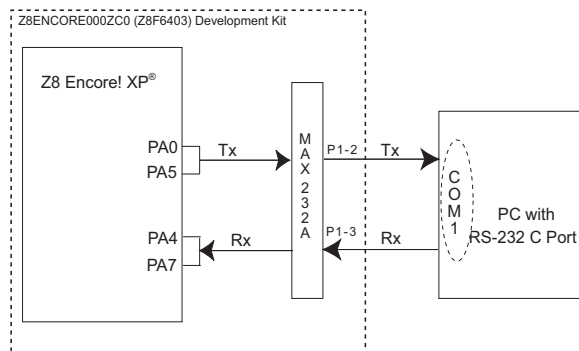

Figure 5. Test Setup for the Z8 Encore! XP[®] MCU Software UART
The software UART test setup for Z8 Encore! XP software UART with the Z8ENCORE000ZC0 Development Kit (Z8F640x MCU) is displayed in Figure 5.
1. Connect the PA0 pin to the PA5 pin. Connect the PA1 pin to the PA4 pin. The available serial driver MAX 232A on the Z8 Encore! XP Development Board, is displayed in Figure 5.